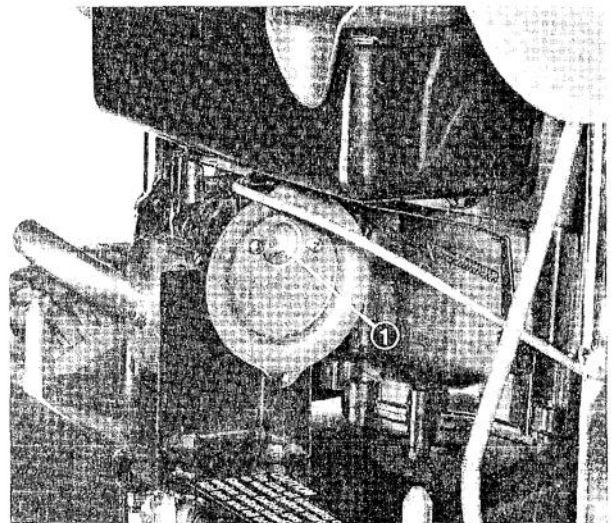

Figure 25
3. Move throttle control to CHOKE position and try to start the engine. If engine starts, throttle control is adjusted correctly. If engine does not start or starts hard, remove air cleaner, loosen cable clamp screw and adjust control arm so choke butterfly in carburetor is fully closed (Fig. 25). Then tighten cable clamp screw. If hard starting still persists, the carburetor may need adjusting.